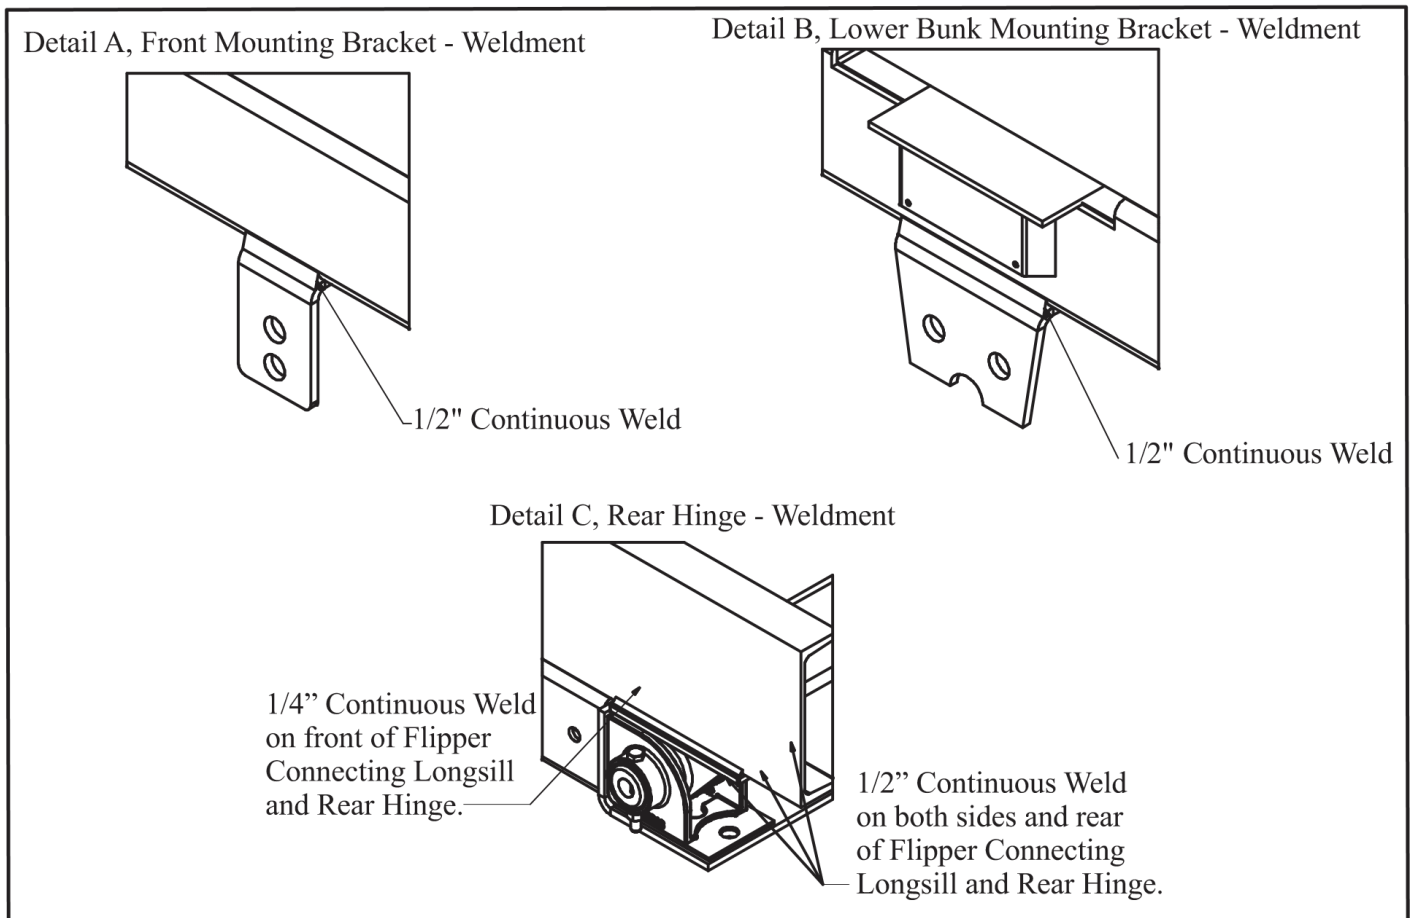

Figure 1: Subframe to Chassis Weldments (Refer to MP50074A, page 10)
8. Weld mounting brackets to subframe with a 1/2" continuous weld, shown in figure 1 below.